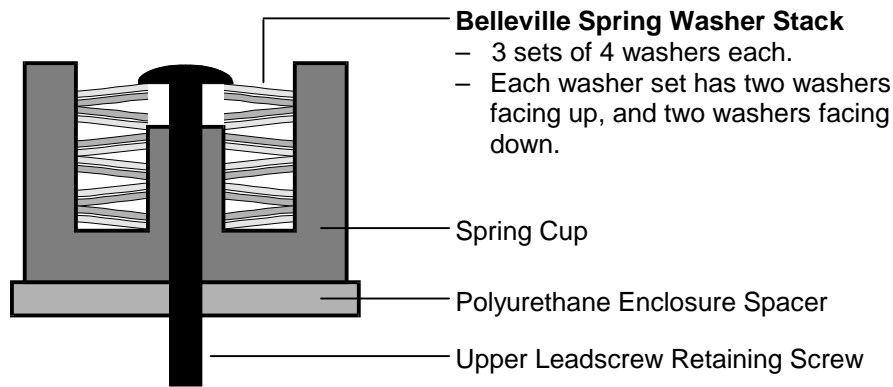

Figure 7-13 The Spring Cup Assembly and Enclosure Spacer
Refer to Figure 7-13 for the remaining steps of this procedure.
- c) Repeat step **b)** two more times, until the spring washer stack looks like the one shown in Figure 7-13.